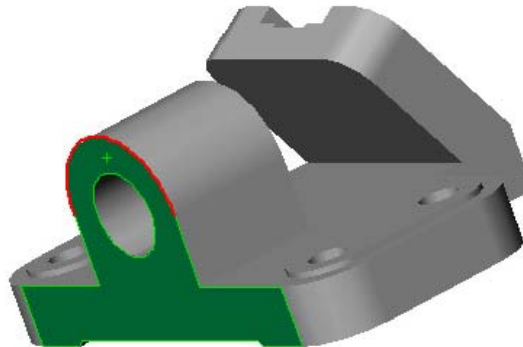

Figure 29 Sketch Plane for Reference Point
26. Select the end face of the counterbored hole boss as shown in Figure 29. You may need to rotate the part.